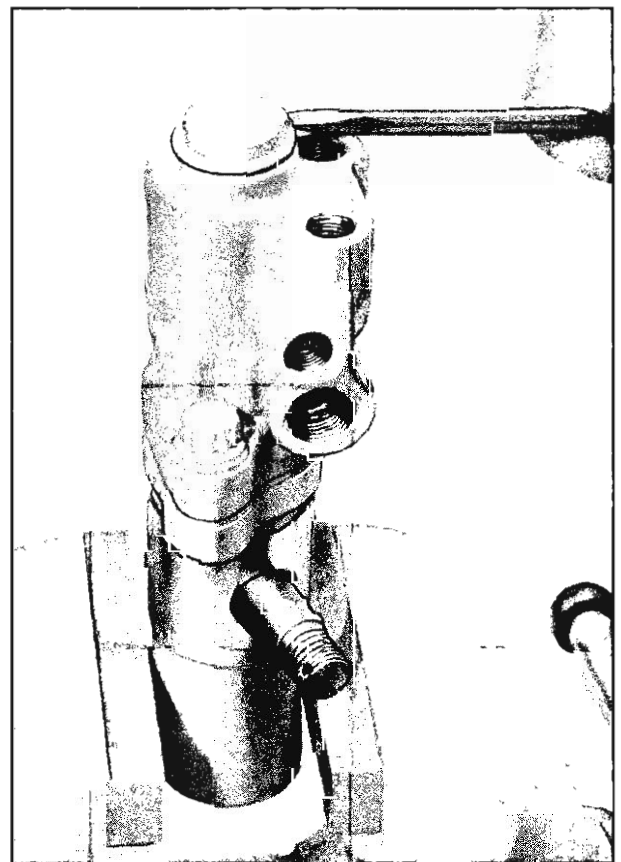

Fig. 78—Dust Cap Removal
1. Place the valve in a vise as shown and remove dust cover (fig. 78).